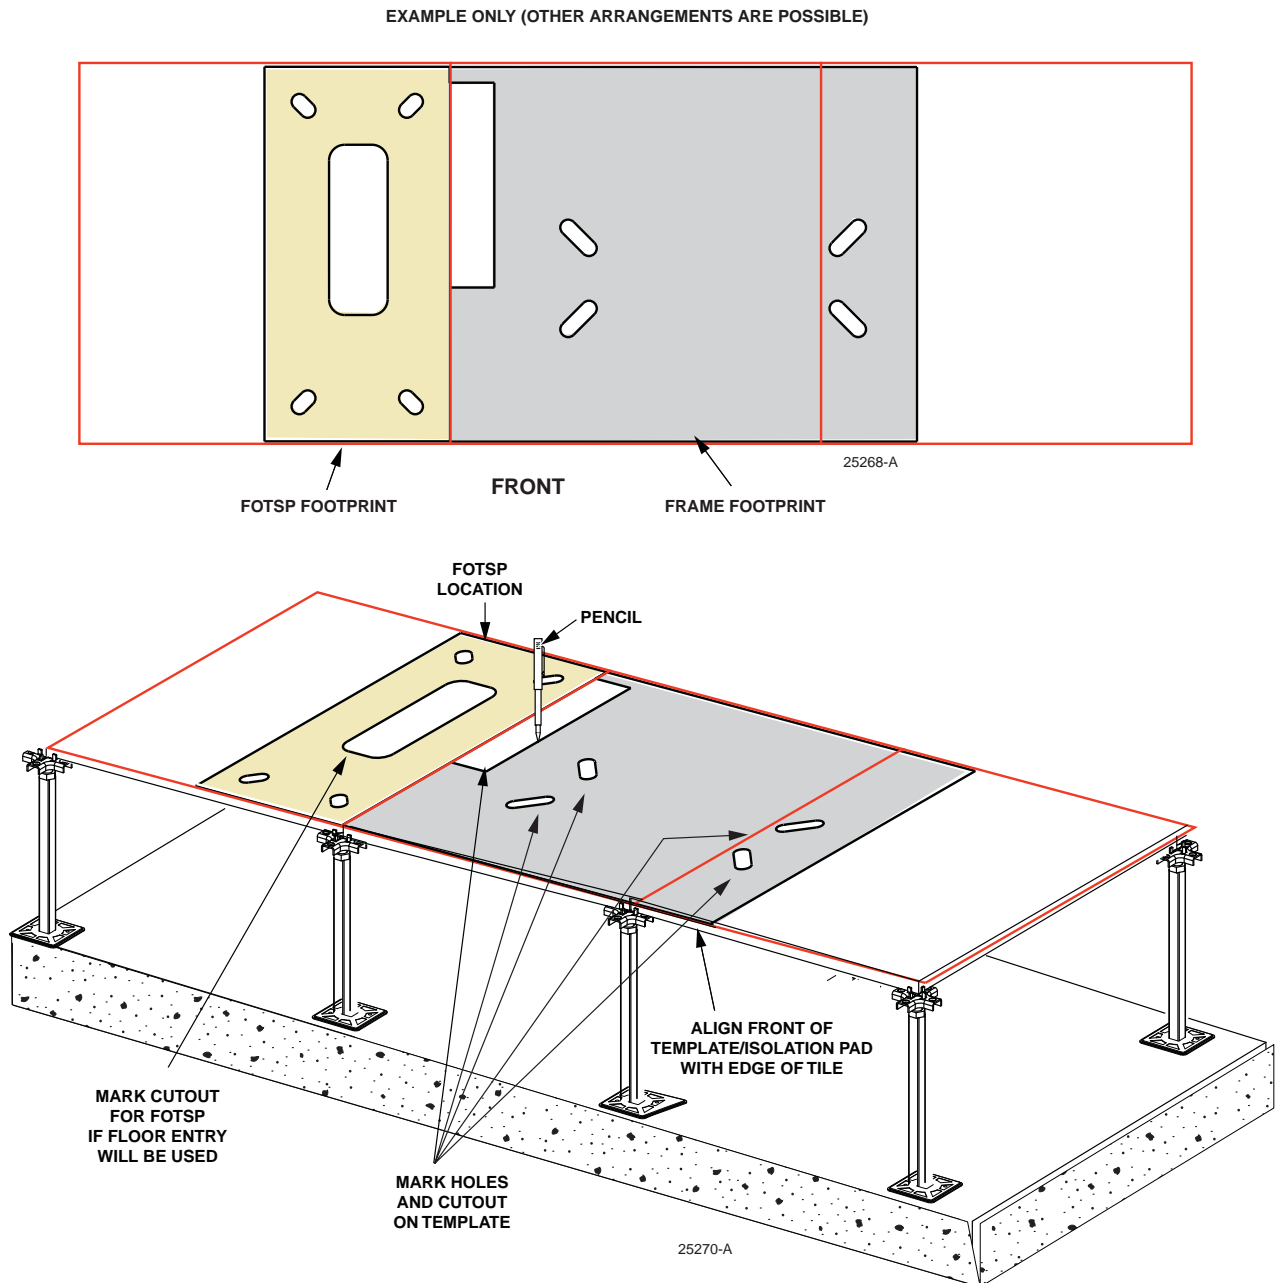

Figure 5. FOTSP and Frame Footprints on Floor Tiles
► **Note:** If optional FOTSP is present, see Figure 5.
4. If FOTSP will be installed, also mark out and cut out a hole for the FOTSP to the left of the frame template. Figure 5 shows an example.